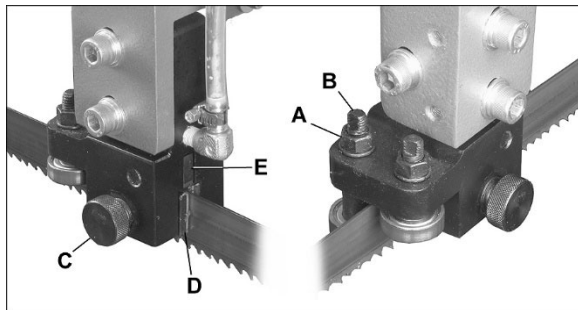

Figure 7-3: blade guides
3. Loosen hex nut (A, Figure 7-3) while holding the flats of the shaft (B) with a wrench.
6. Use knurled knob (C) to tighten carbide guides (D) against blade. Do not overtighten.
7. The back edge of the blade runs against an upper guide (E). This guide is fixed.